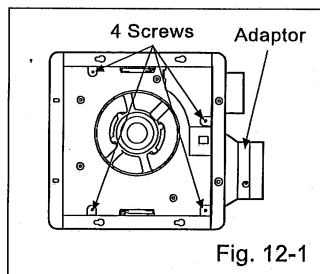

Fig. 12-1
1. Loosen 4 screws (but do not remove them from blower). (Fig. 12-1)